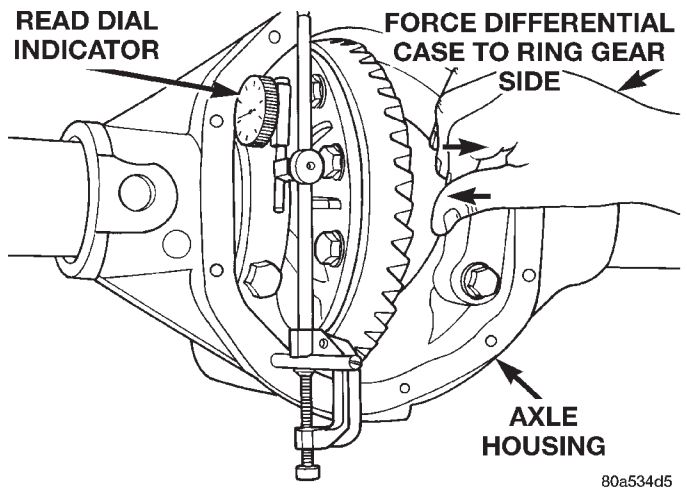

Fig. 76 Hold Differential Case and Read Dial Indicator
- (12) Push firmly and hold differential case to ring gear side of the axle housing (Fig. 76).
- (13) Record dial indicator reading.
- (14) Add the dial indicator reading to the starting point shim thickness to determine total shim thickness to achieve zero differential end play.
- (15) Add 0.008 in. (0.2 mm) to the zero end play total. This new total represents the thickness of shims to compress, or preload the new bearings when the differential is installed.
- (16) Rotate dial indicator out of the way on guide stud.
- (17) Remove differential case, dummy bearings, and starting point shims from axle housing.
- (18) Install pinion gear in axle housing. Install the yoke and establish the correct pinion rotating torque.